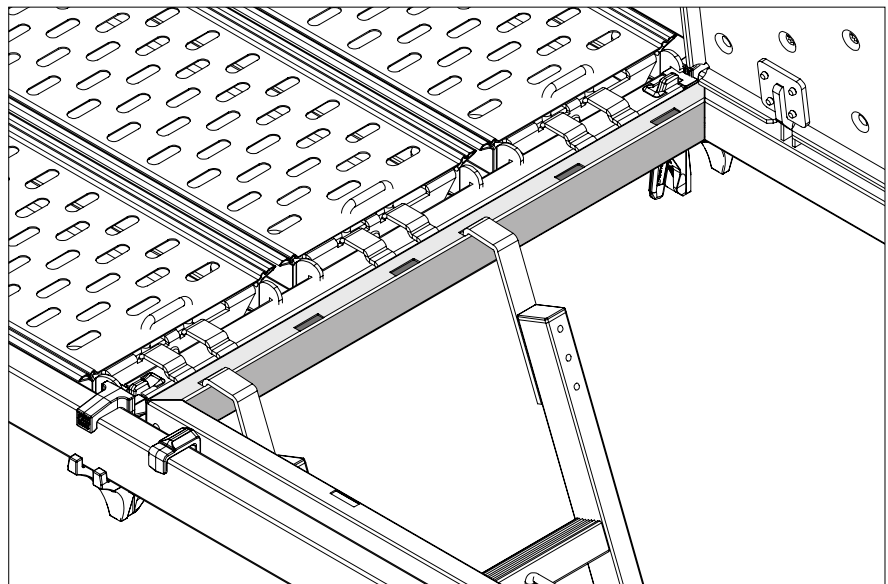

Fig. A8.06
2. Lift the ladder into the access opening and hook the ladder hooks into the openings provided (**63.1**) in the frame profile. (Fig. A8.06)